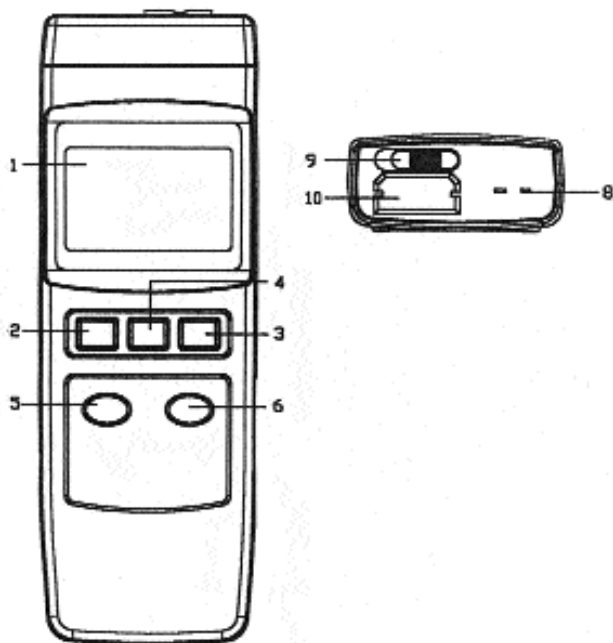

Fig. 1
- 1) Plug Type K thermocouple probe in the Temp. Input Socket (3-8, Fig. 1).
- 2) Slide Lock Switch (3-9, Fig. 1) to the lock "  " position.
- 3) Power on the meter by pressing the Power Button (3-2, Fig.1), then you will see the measured value on the display.
Press the K/J Button (B Button) (3-6, Fig. 1) to select Type K mode or type J mode (the initial setup mode is Type K).
- 4) Press the " °C, °F Button " (3-5, Fig. 1) to select the temperature unit. You can see the current unit at the bottom-right position of the LCD display.
Press the " Hold Button " (3-4, Fig. 1) will hold the measured value & the LCD will indicate a " HOLD " symbol on the display during the measurement.
- * The data record function records the maximum and minimum readings. Press the " REC. Button " (3-3, Fig. 1) to start the Data Record function and there will be a " REC " symbol on the display.
- a) Press the " REC. Button " (3-3, Fig. 1) once, the " REC Max " symbol along with the maximum value will appear on the display.
If intend to delete the maximum value, just press the " Hold Button " (3-4, Fig. 1) for a while, then the display will show the " REC " symbol only & execute the memory function continuously.
- b) Press the " REC. Button " (3-3, Fig. 1) again, the " REC Min " symbol along with the minimum value will appear on the display.
If intend to delete the minimum value, just press the " Hold Button " (3-4, Fig. 1) for a while, then the display will show the " REC " symbol only & execute the memory function continuously.
- 4) Press the " Hold Button " (3-4, Fig. 1) and " REC. Button " (3-3, Fig. 1) at the same time for around 1 seconds, the upper display and lower display will show the same value like
- 5) Under the " Hold Button " (3-4, Fig. 1) and " REC. Button " (3-3, Fig. 1) being pressed condition, press "°C,°F Button (A Button) " (3-5, Fig. 1) to add 0.1 or press " K/J Button (B Button) " (3-6, Fig. 1) to decrease 0.1 to the upper digits.
Disable auto power off function by pressing the " REC. Button " (3-3, Fig. 1) to get into the " Data Record " function with a " REC " symbol on the display for long period measurement.
The instrument has RS232 PC serial interface via a 3.5 mm terminal (3-11, Fig. 1).